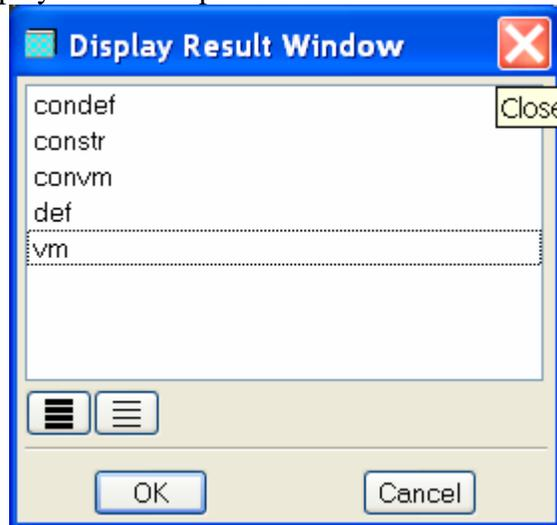
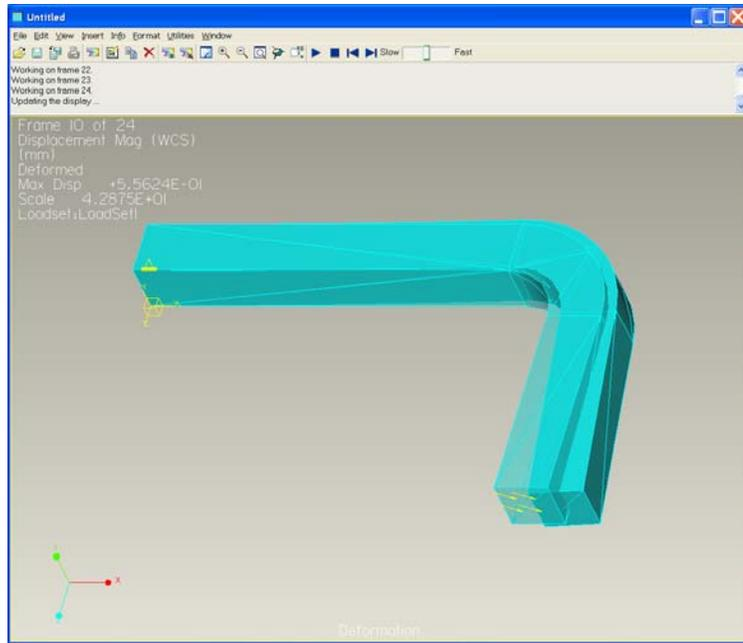

Figure 28
Figure 29
- We have now defined five results windows. To see a list of the defined windows, select View → Display This will open the windows shown in Figure 28.
- Show the deformation animation in Figure 29. Select the entry def in the Figure 28 and then select OK.